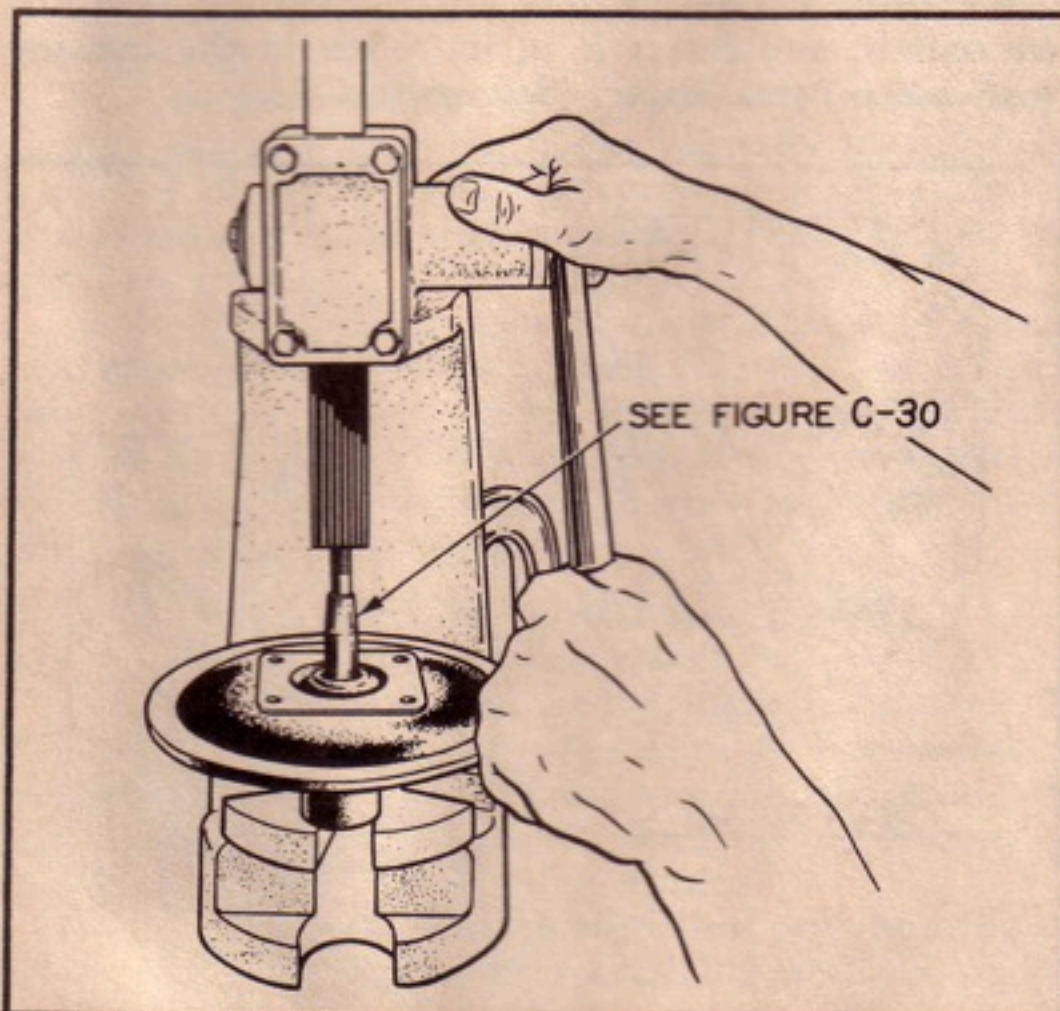

Figure C-28. Removing Needle Bearing From Bearing Housing
4. INSTALLATION OF NEEDLE BEARINGS. (See figures C-28 and C-31.) Needle bearings are used on many vertical shaft engines, and need not be removed unless replacement is required.
- a. Press out the old bearings in an arbor press. (See figure C-28.)